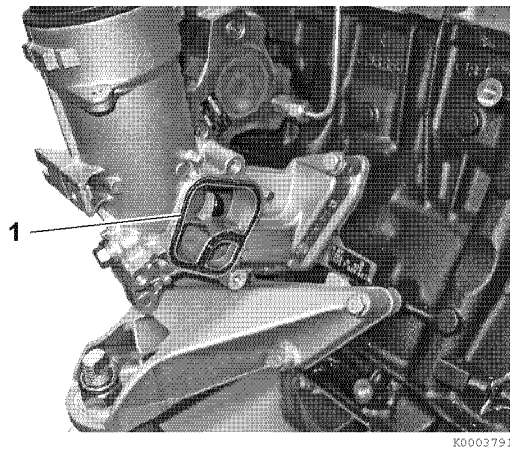

Figure 8-11
9. Install a new seal (1, **Figure 8-11**) in the oil filter housing.